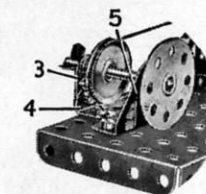

Fig. O.6a.
The Bolts (1) are fitted with lock-nuts so that the parts they attach are free to pivot. Bearings for a 2" Rod, the end of which is seen at (2), are provided by a Fishplate (3), Fig. O.6a, bolted to an Angle Bracket (4), and a Trunnion (5).